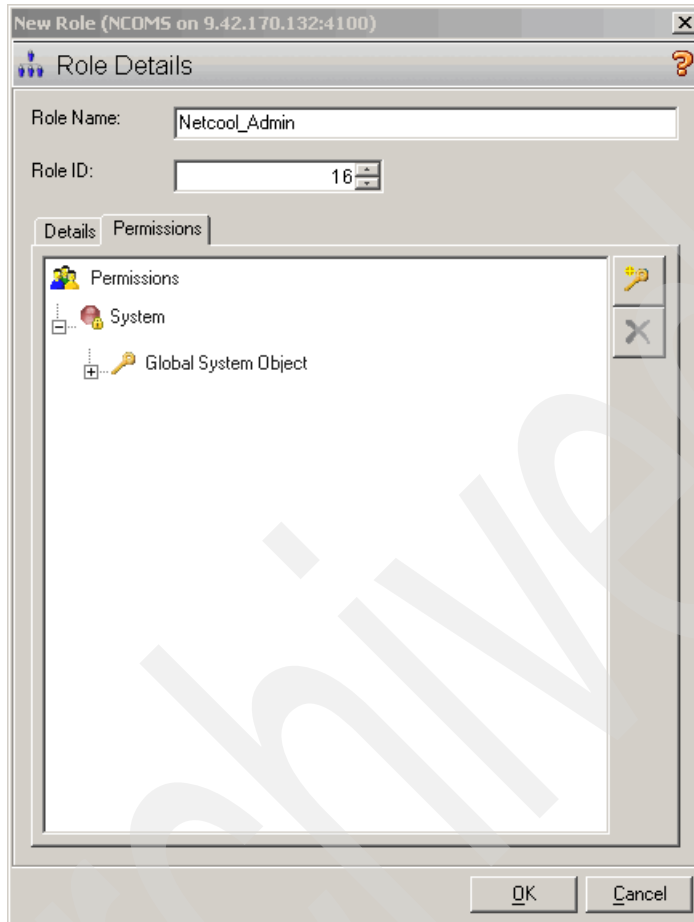

Figure 4-17 Permissions tab
5. The new permission object is shown in Figure 4-17 on page 111. You can then set the appropriate authorization. The authorization are similar to SQL authorization, such as SELECT, INSERT, DELETE, DROP, ALTER, and so on.